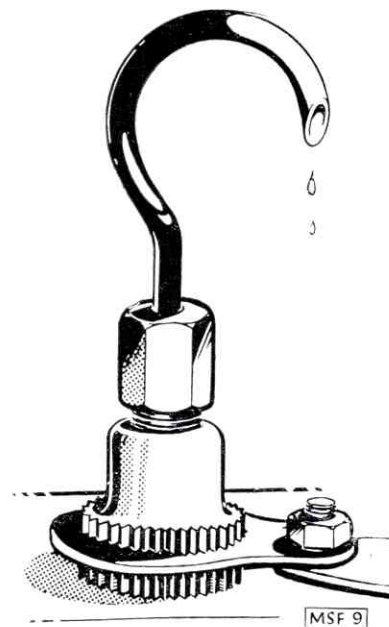

FIG. 84. THE SPILL PIPE
10. Fit the spill pipe, Fig. 84, and turn on the fuel oil.